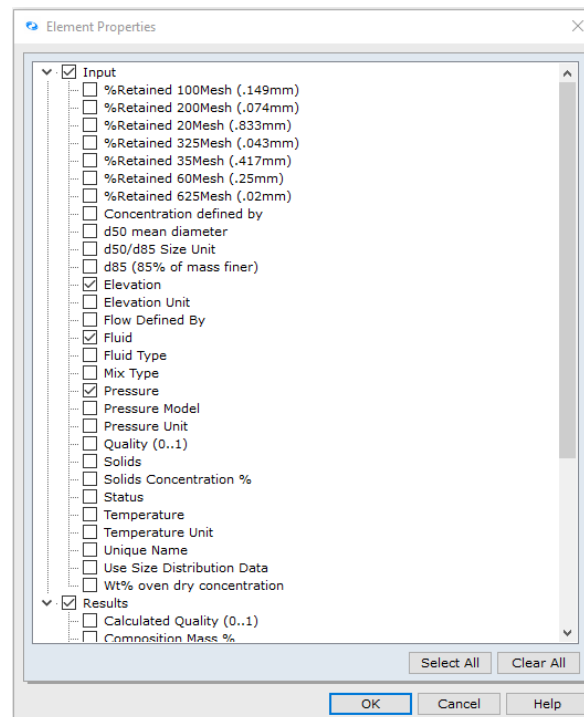

Figure 35: Element Properties Dialogue Box.
41. Now we will select the field titled *Properties* from the Input list. An *Element Properties* dialogue box will appear (Figure 35):